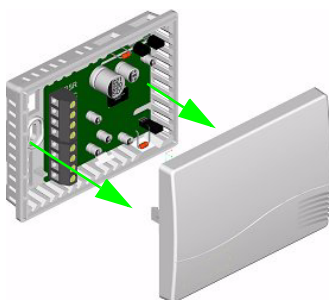

FIG. 25 Opening the support module case
3. Open the support module case by pulling the cover straight forward, as shown in FIG. 25: